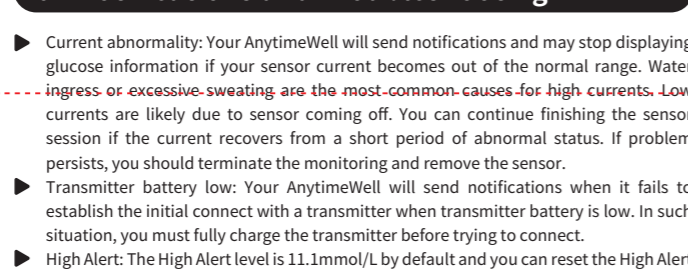

Figure 41 Followers and Notifications Lists
- and Notifications, as shown in Figure 41.